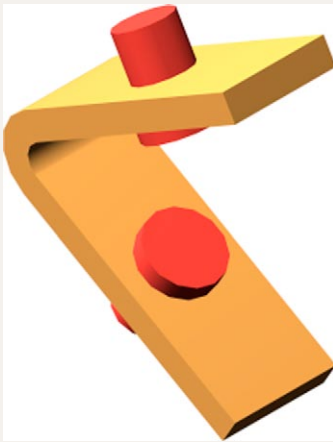
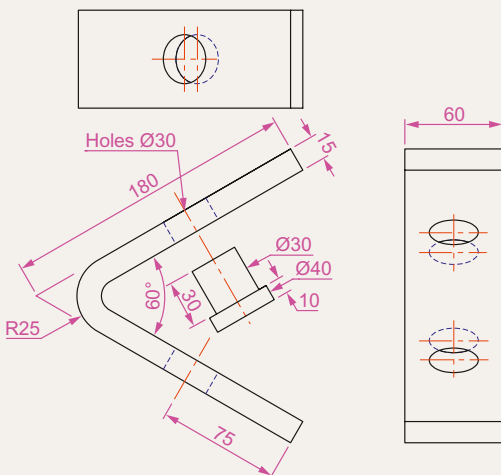

Fig. 17.33 Exercise 1 – a rendering
Fig. 17.34 Exercise 1 – details of shape and sizes
1. Fig. 17.33 is a rendering of a two-view projection of an angle bracket in which two pins are placed in holes in each of the arms of the bracket. Fig. 17.34 is a two-view projection of the bracket.